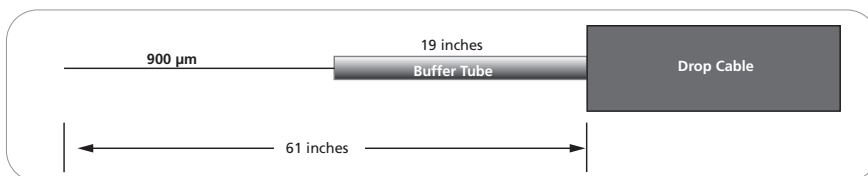

Figure 3
1. Mark the cable to have a 61" (154.9 cm) opening. **(Figure 3)**